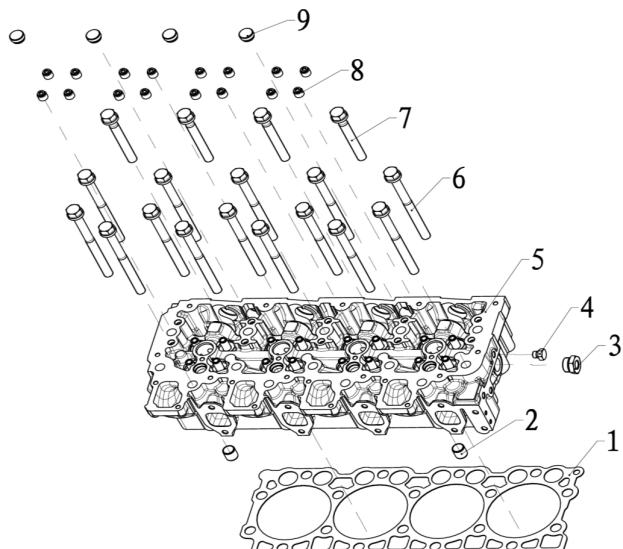

Figure 4-10 Structure diagram and installation position of the cylinder head cover components
- (1) Before removing the cylinder cover, it is necessary to ensure the entire air distribution system such as the rocker, the push rod has been removed completely beforehand.
- (2) Before removing the cylinder cover, it is also necessary to ensure that the injector is removed beforehand, to avoid pressing or compressing the injector.
- (3) Ensure that before removing the fuel system, remove the high-pressure link part otherwise it is not possible to remove the cylinder bolt.
- (4) Then step by step to loosen the entire bolts. WP5 has all 18 bolts, including 14 long bolts and 4 short bolts. All bolts must be removed before craning the cylinder head cover.
- (5) The cylinder cover after removing must be placed on the paper, nylon to avoid the damaged surface.
- (6) after removing, protect the upper part of engine block to prevent impurities from entering the combustion chamber.
- (7) Remove the cylinder head cover gasket.
(8) Remove the inlet and exhaust valve, refer to disassembly of the relevant installation and removing sequence.
(9) Remove valve gasket.
(10) The overall cylinder head cover and sequence of installing and removing refer to figure 4-10 and 4-11.